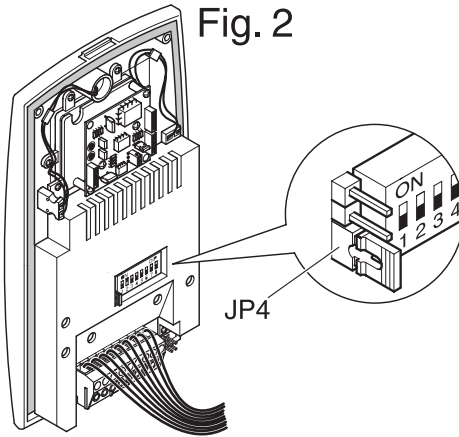

Fig. 3
3. On the DIP switches of the article, set the relative code for the function you want to programme (Fig. 3). Use the following table as a reference.